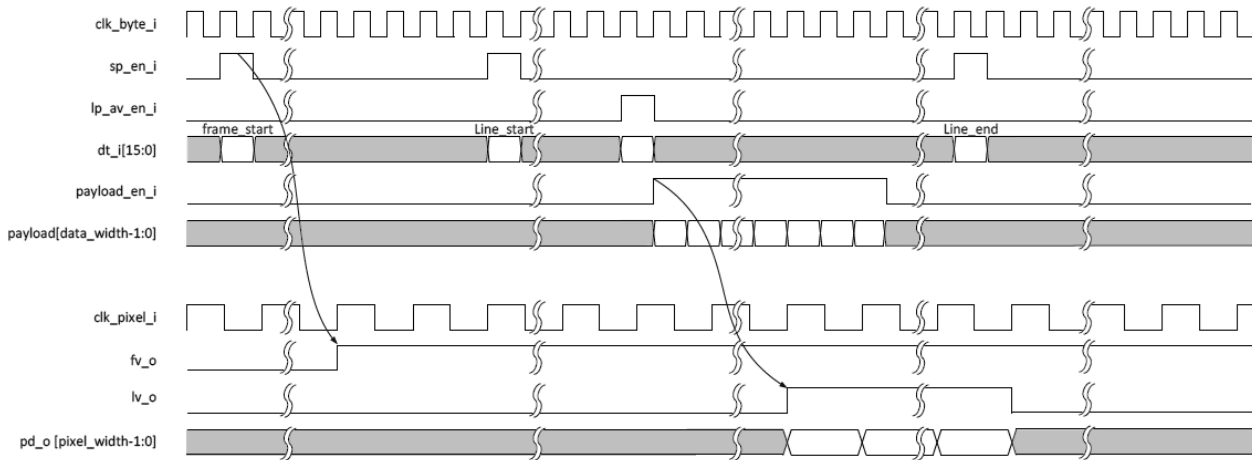
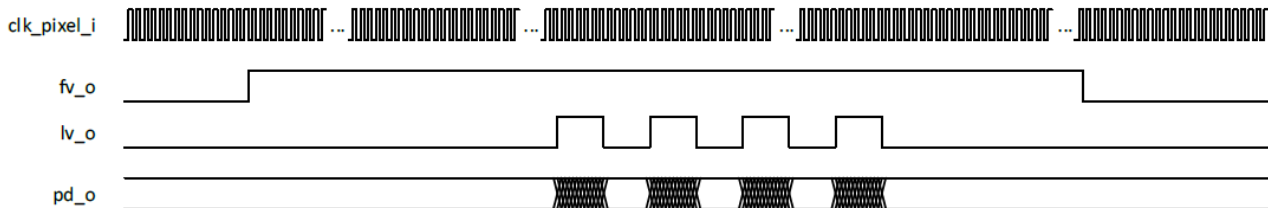

Figure 3.5. Interface Timing Diagram
Figure 3.6. Global Output Timing Diagram
Figure 3.5 shows the interface timing diagram. Frame Valid (FV) and Line Valid (LV) are generated based on short packet enable and payload enable signals. Figure 3.6 shows global output timing. In case of RGB output, sync signals (VSYNC, HSYNC) have to be created from FV and LV to match the interface format of parallel RGB. In addition, RGB pixel data have to be created from RAW data. For these purposes, an additional module (*raw2rgb*) is required after *byte2pixel* for RGB output.